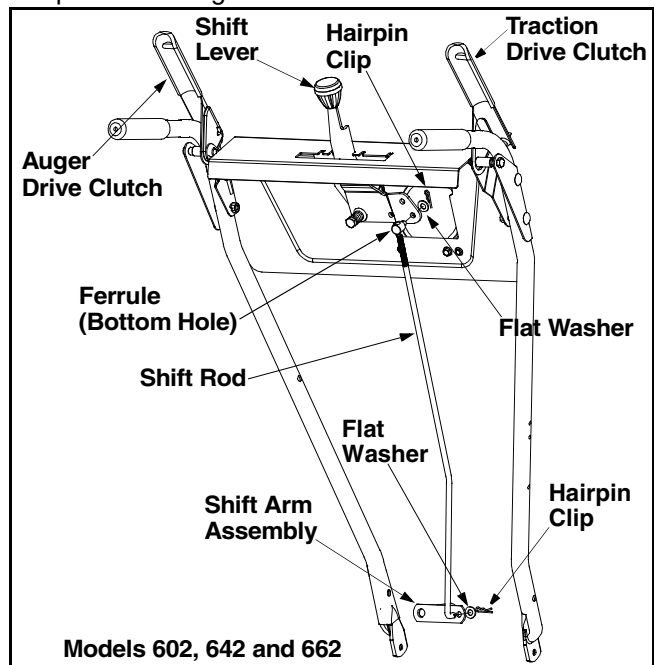

Figure 7
- **Models 602, 642, and 662:** Rotate the shift arm assembly counter clockwise, as far as it will go. Insert the shift rod through the shift arm assembly. When installed the shift arm assembly should point to the right. Secure with flat washer and hairpin clip. See Figure 7.
- **Models 602, 642, and 662:** Thread the ferrule up or down the shift rod and align with the lower hole on the shift lever assembly behind the handle panel. See Figure 7.